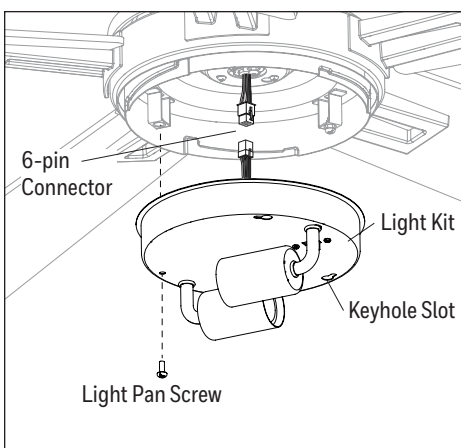

Figure 5.7
- Remove one of the three light pan screws from the light pan and loosen the other two but do not remove. Connect the 6-pin connector from the light pan to the 6-pin connector from the light kit. Lift the two keyhole slots in the light kit over the two loosened light pan screws and turn in a clockwise direction. Then, use the previously removed light pan screw to secure the light kit to the light pan. Tighten all screws (Figure 5.7).